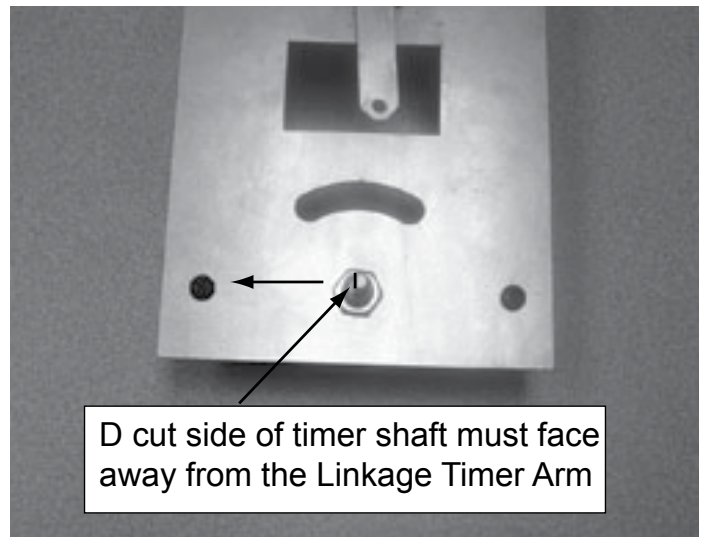

Figure 4.22 D Cut on Shaft
- Install new timer using same two screws. It is very important that the D cut side of the timer shaft is facing the opposite side of the linkage timer arm. See Figure 4.22.